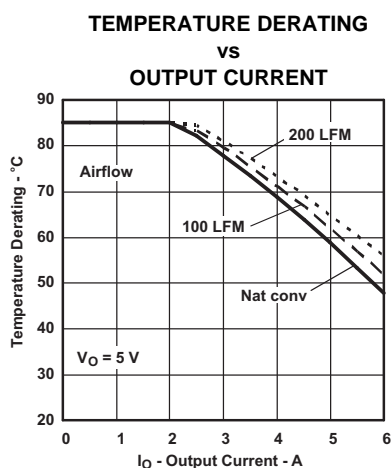
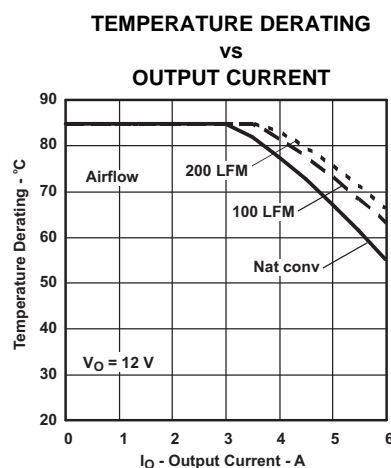

Figure 9.
Figure 10.
- (2) The temperature derating curves represent the conditions at which internal components are at or below the manufacturer's maximum operating temperatures. Derating limits apply to modules soldered directly to a 100 mm x 100 mm double-sided PCB with 2 oz. copper. For surface mount packages (AS and AZ suffix), multiple vias (plated through holes) are required to add thermal paths around the power pins. Please refer to the mechanical specification for more information. Applies to Figure 9 and Figure 10.